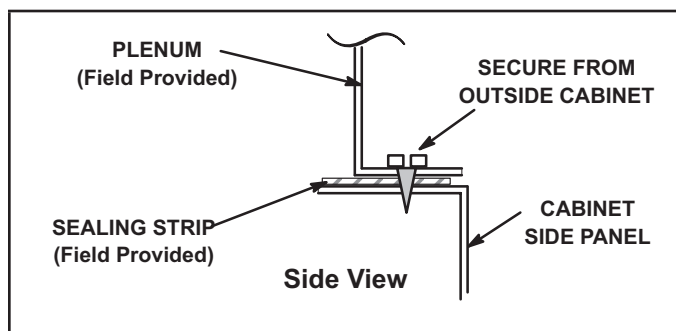
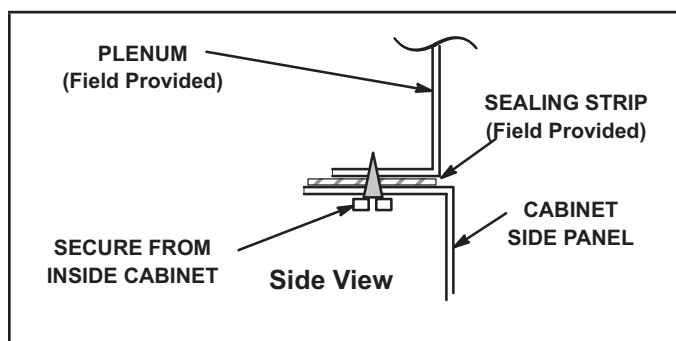

FIGURE 17
FIGURE 18
- 1 - Bottom edge of plenum should be flanged with a hemmed edge (FIGURE 17 and FIGURE 18).